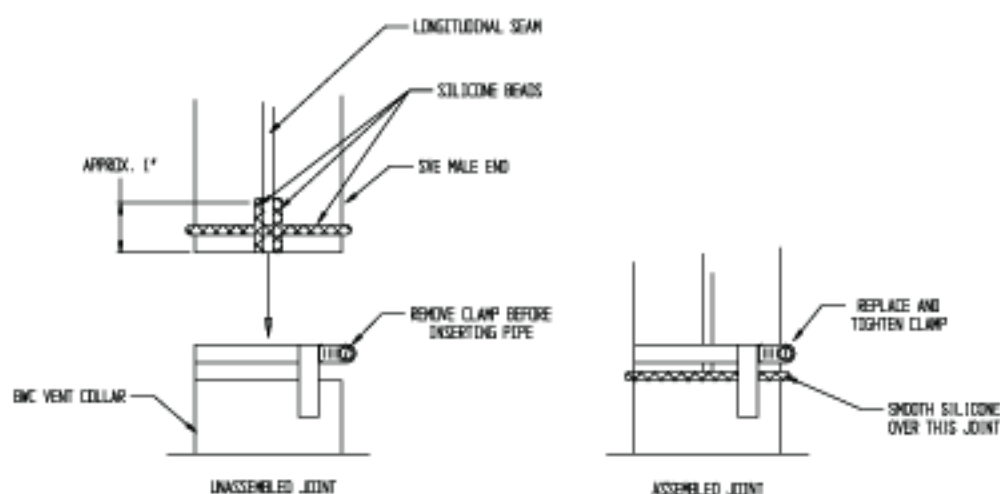

FIGURE 6.8: Z-VENT III CONNECTION TO VENT COLLAR
- d) On the male end of the pipe, apply a 1/4" wide bead of high temperature silicone approximately 1/2 inch from the male end of the pipe. Apply 1/4" beads of silicone along both sides of the longitudinal seam (Fig. 6.8).